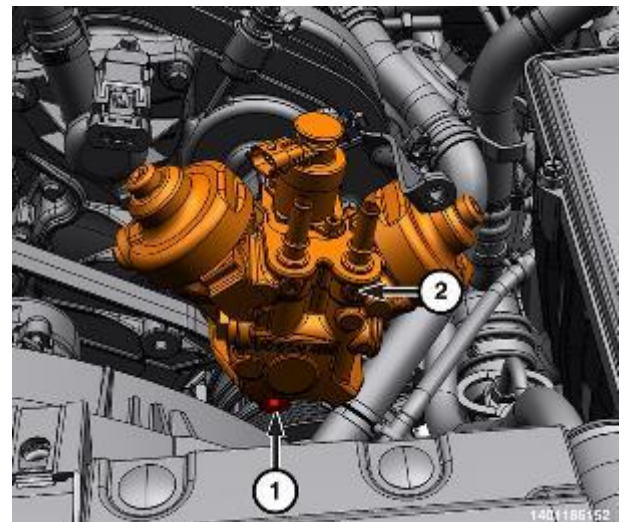

Figure 140 – HPFP Lower Bolt
- 78. Remove the lower bolt (1) from the HPFP (2) and remove it from the vehicle (Figure 140).